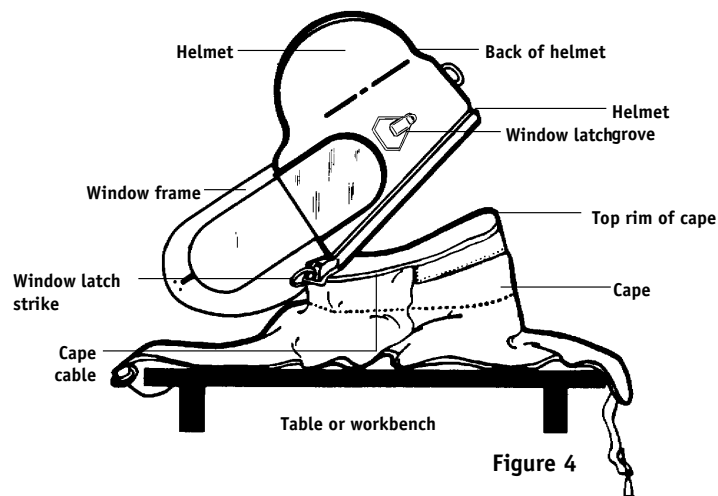

Figure 4
2. Remove cape from helmet by lifting up on clamp and disengaging cape from helmet groove (Figure 4).
1. Place cape on table or workbench. (Figure 4)
3. Line up the hook-shaped catch on the cape with the front center of the helmet. (Figure 4) Catch should firmly engage under bottom front edge of helmet.